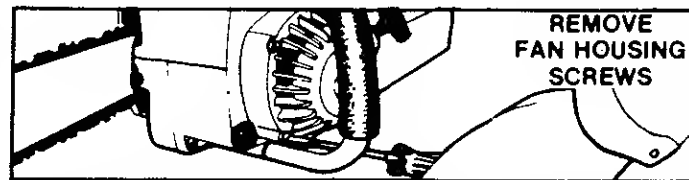

Figure 39
2. Remove the two screws on the side of the fan housing and the screw on the bottom of the fan housing. Figure 39.